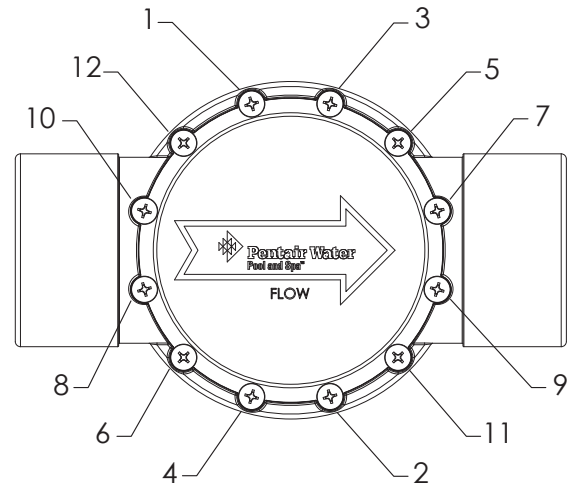

Figure 6.
Check Valve Top Cover- Removal and Installation (see Figure 6 and 7)
To install the check valve top cover (see Figure 6 and 7)
3. Install the twelve (12) cover screws. Using a No. 2 Phillips screwdriver, torque screws sequentially to 36 lb*in (4.1 N*m), using the tightening sequence shown in Figure 6. Verify that the check valve flapper is oriented in the proper direction.